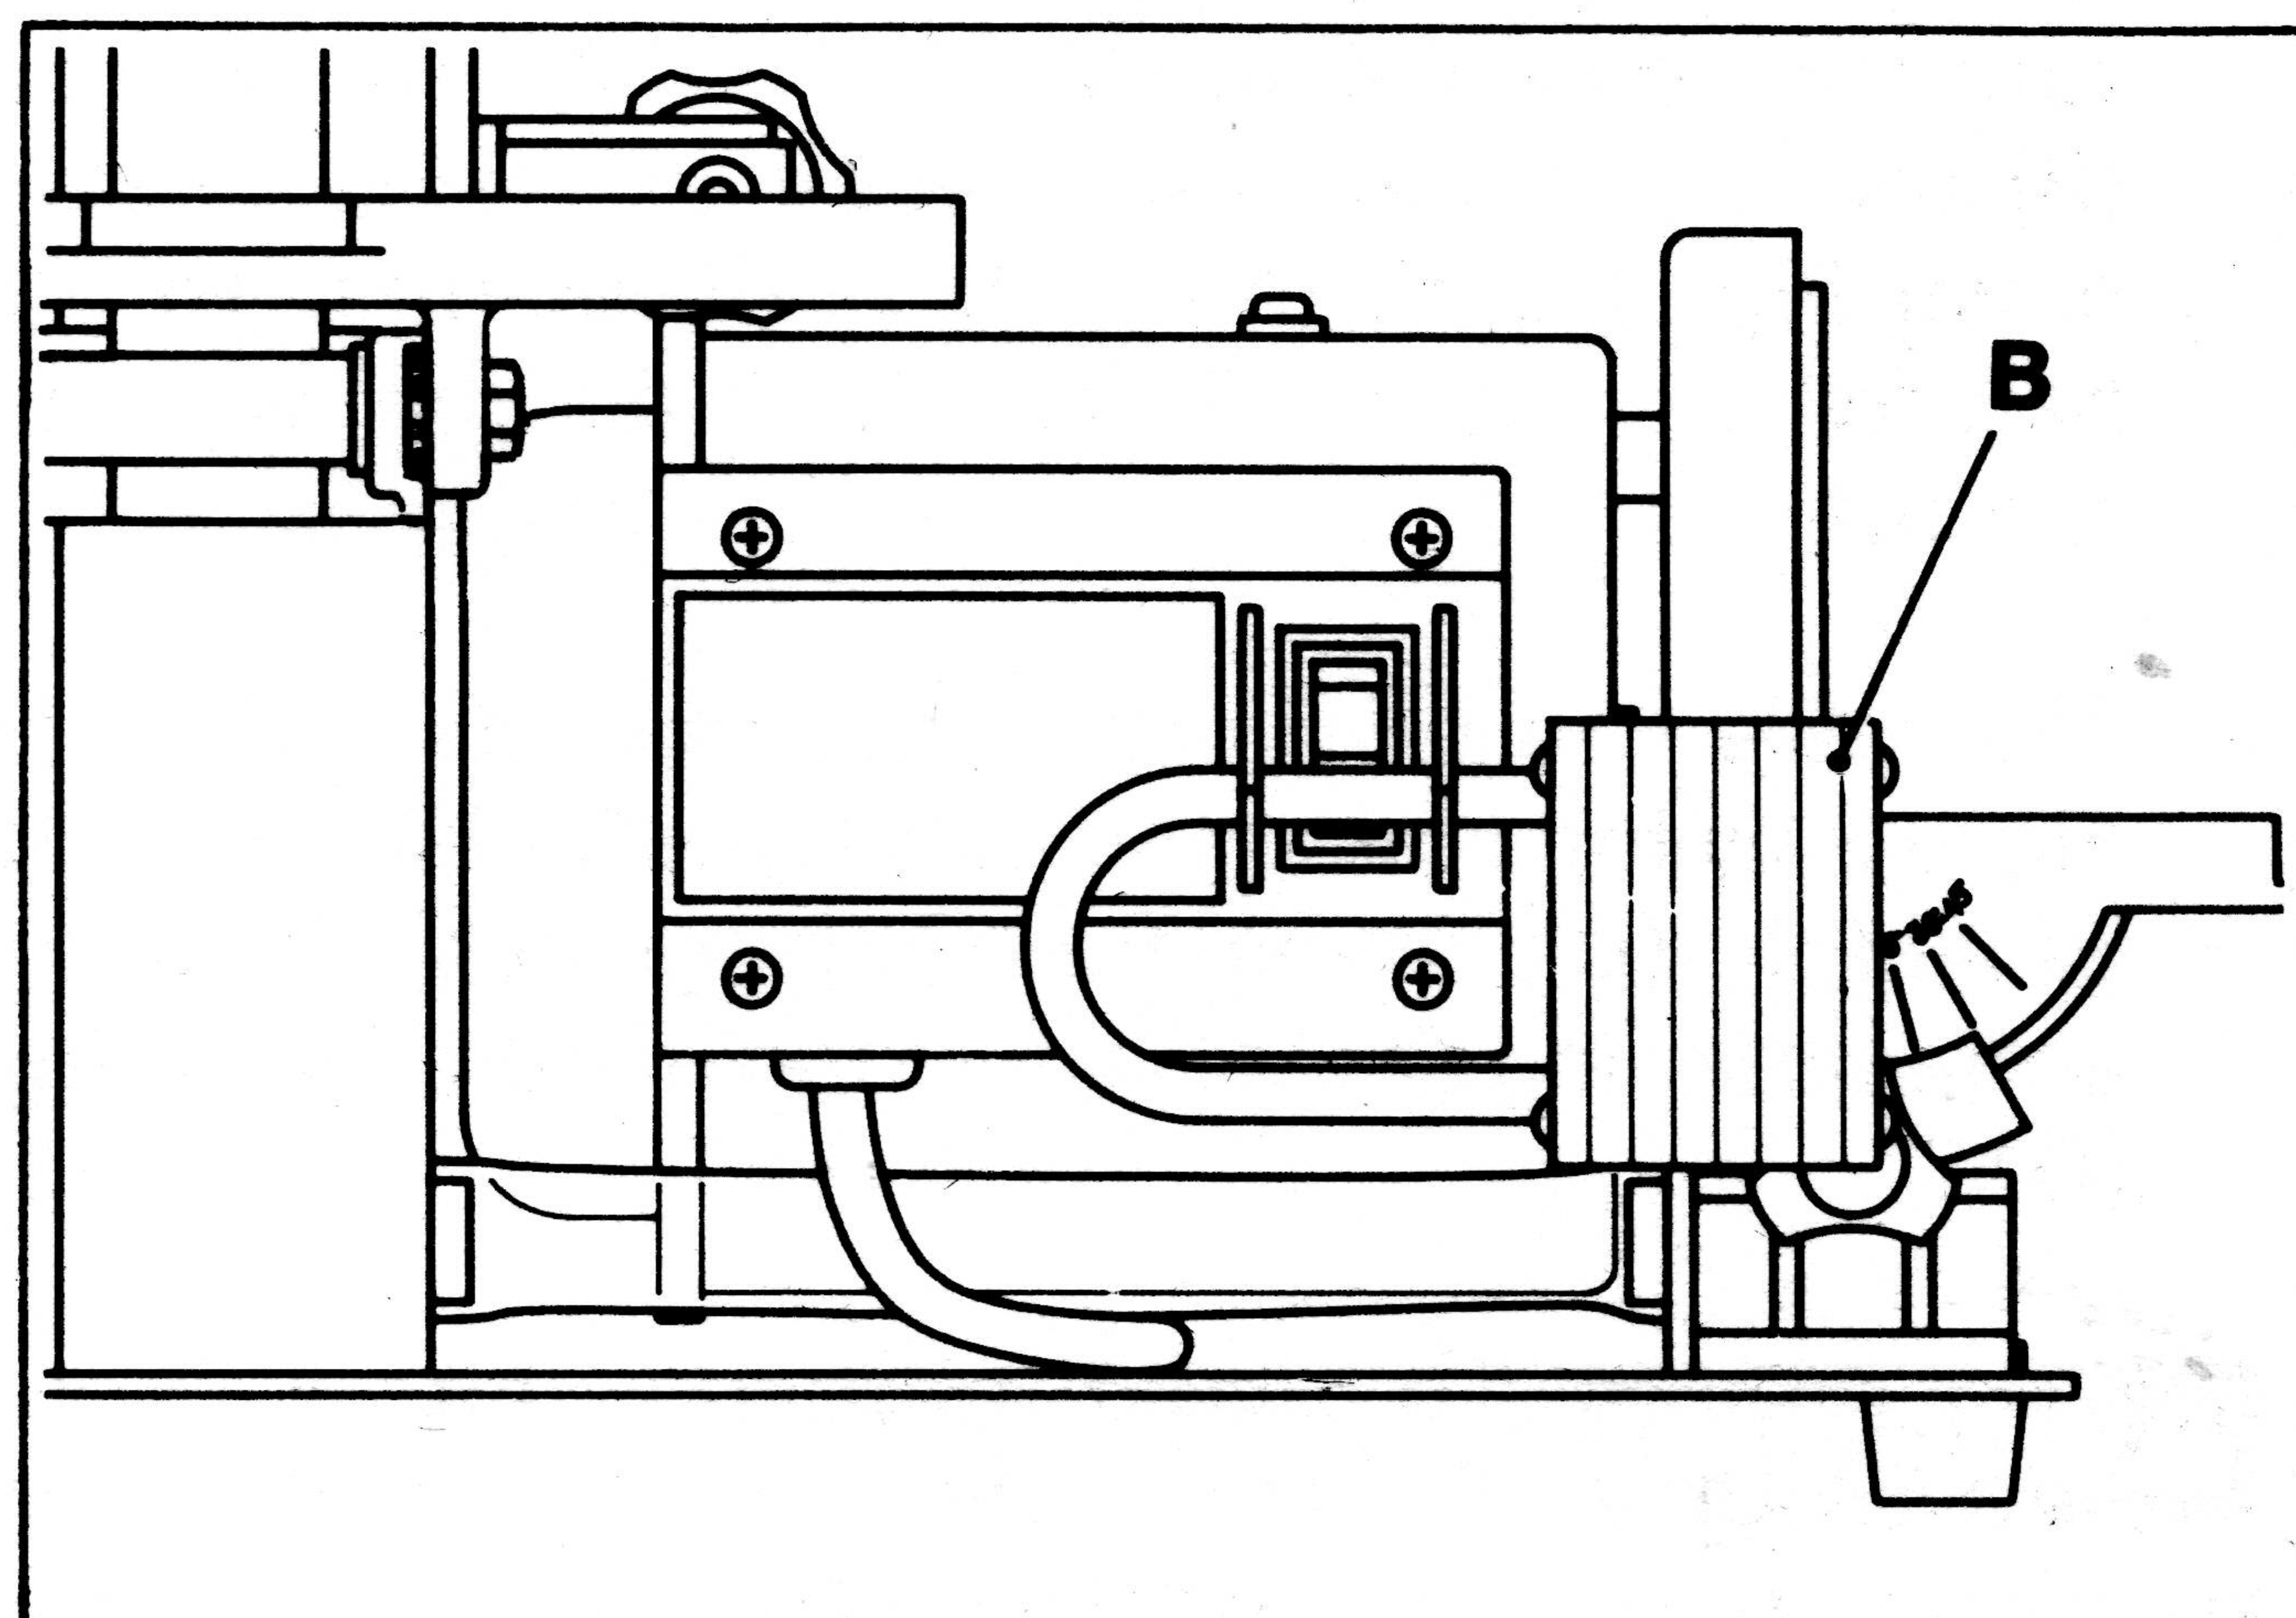

Fig. 10
We suggest that when the sander is not in use, the switch be locked in the "OFF" position to prevent unauthorized use of the machine, using a padlock (B), as shown in Fig.10.